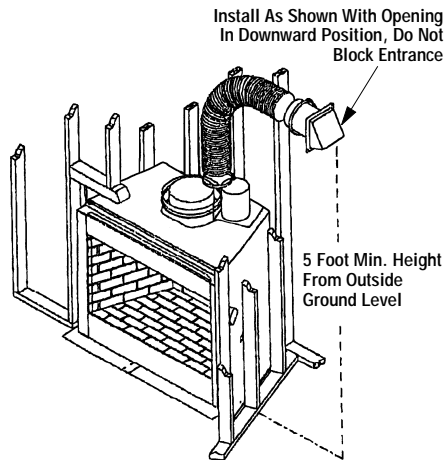

Figure 19
Step 6. Connect the 6" (102 mm) Class 0 air duct provided by installer, to the duct collar on the fireplace and secure with two (2) screws from the kit's hardware package.
Step 7. Route the Class 0 air duct out the back or side wall, up through the ceiling or floor joists to an outside wall. The air inlet hood should be located above snow level or above any anticipated snow level, (Figure 19).